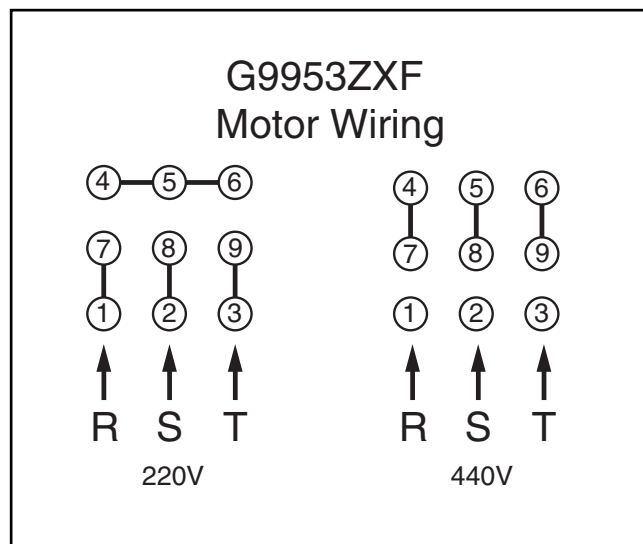

Figure 6. 440V motor wiring.
5. Wire the motor as shown on the diagram on the inside of the motor wire cover. Note—*The circled references on the diagrams represent labels on the wires. Also, Figure 6 below has been provided for your reference and are current at the time that this manual is being written. However, always use the diagram on the wire cover that comes with your motor!*